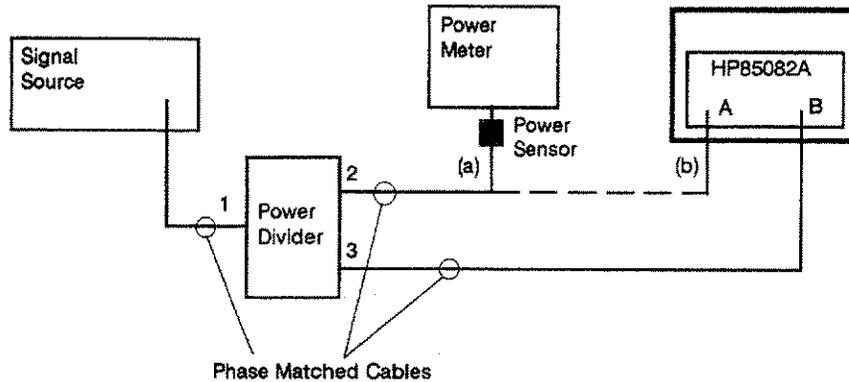

Figure 5-3 . Bias Adjustment Setup
1. Configure the equipment as shown in Figure 5-3 step (a). Connect the power meter to port 2 of the power divider and Channel B of the HP 85082A to port 3, using the phase matched cables.
4. Reconfigure the equipment as shown in Figure 5-3 step (b). Connecting Channel A of the HP 85082A to port 2 of the power divider and Channel B of the HP 85082A to port 3, using the phase matched cables.
6. Reconfigure the equipment as in Figure 5-3 step (a).
8. Reconfigure the equipment as shown in Figure 5-3 step (b).
10. Reconfigure the equipment as shown in Figure 5-3 step (a).
12. Reconfigure the equipment as shown in Figure 5-3 step (b).
14. Reconfigure the equipment as shown in Figure 5-3 step (a).
16. Reconfigure the equipment as shown in Figure 5-3 step (b).